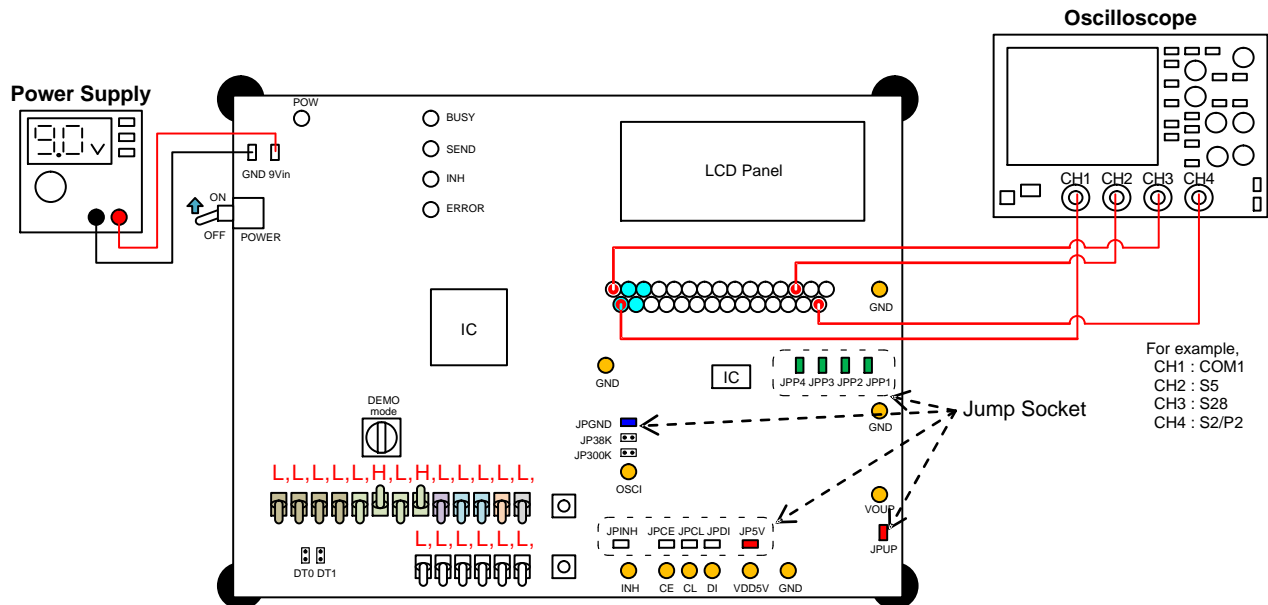

Figure 3. The Test Constitution when the All Circuits in the LC75843UGAGEVB Board Are Used
1. Connect the test setup as shown in Figure 3.